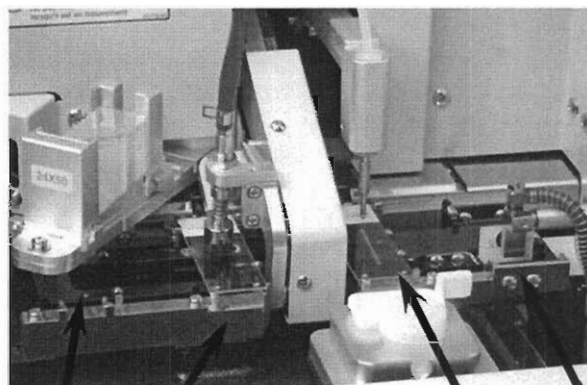

Figure 3-N
As operation begins, the slide arm moves downward, into the loading drawer to retrieve a slide ① (Fig. 3-N). The loading drawer advances until a slide, from one of the three baskets, is identified by the slide arm. When it has identified a slide, the vacuum cup seals a vacuum and gently lifts it onto the coverslipping stage.